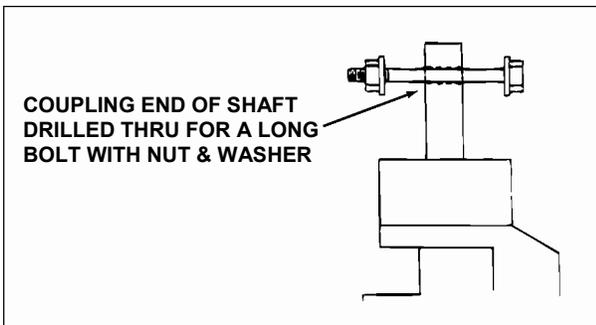

FIGURE 57 – BOLT, NUT AND WASHER ASSEMBLY
- 13. Thread a long bolt, washer and nut through the hole at the end of the shaft (See Figure 57).